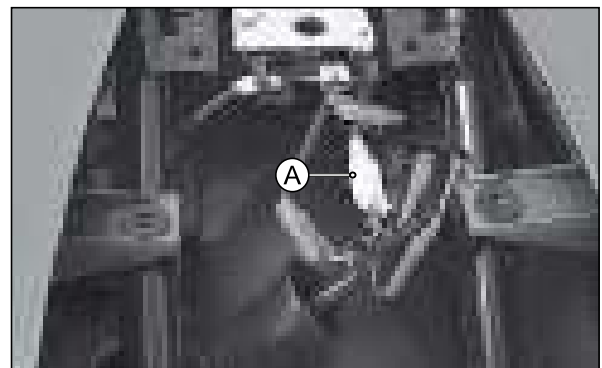

Fig. 2.28
- Disconnect the tail lamp coupler (A) from the main wiring harness. (Fig. 2.28)